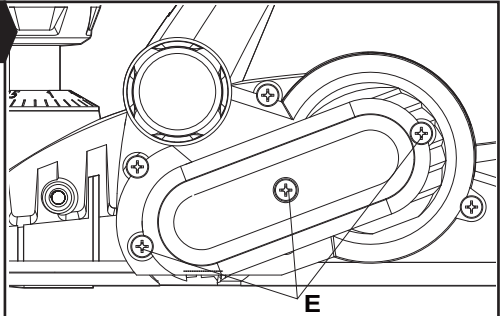

Fig. H1
9. REPLACING A DRIVE BELT (See Fig. H1,H2)